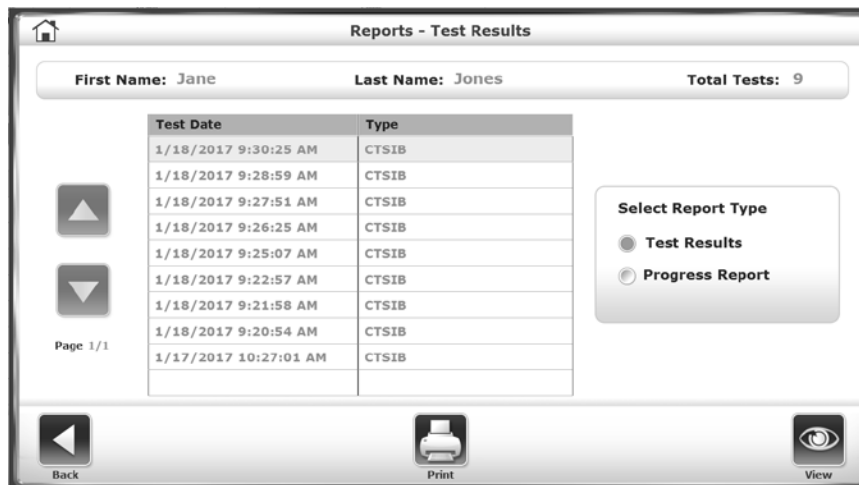

Figure 7.3. Selecting a Test for a Report.
2. The list of sessions is sorted by date and then type. Touch a session to highlight it. The results can be viewed, printed, or a progress report can be made using the results from all sessions (see Figure 7.3).